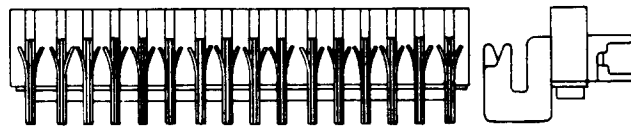

Fig. 6—461A Jack
2.06 461A: This multicontact jack (Fig. 6) consists of a wooden strip on which there are mounted 16 pairs of contact springs insulated from each other. The terminals are arranged for mechanical connections. This jack is also used with the 333A plug in J32311 connectors and connector shelves in the 355A dial office. The 461A jack is furnished with springs that are adjusted but can be adjusted when assembled in equipment units so that the two springs in any or all sets of springs will make contact with each other when the plug is removed.